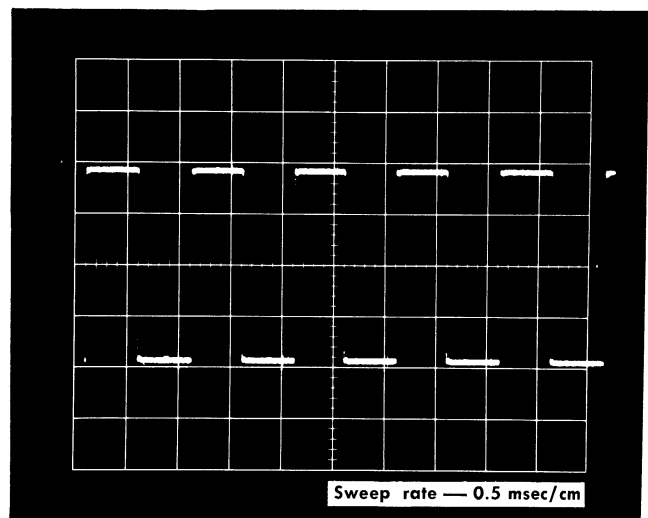

Fig. 2-3. Triggered 1-kc square-wave display in real-time mode. Each cm of display height provides 200 mv of signal at oscilloscope Vertical Signal Output.
32. Adjust the STABILITY OR UHF SYNC control for the best possible triggering. If all positions provide equally good triggering, set the control near the counterclockwise end of the range in which the sweep will run. Fig. 2-3 shows the triggered 1-kc display. Note that stable triggering on this 60- to 100-millivolt signal is provided conveniently by the Vertical Signal Output. 200 millivolts of output amplitude is provided for each centimeter of display height. Thus the 3- to 5-cm display provides 600 mv to 1 volt to the external trigger input.